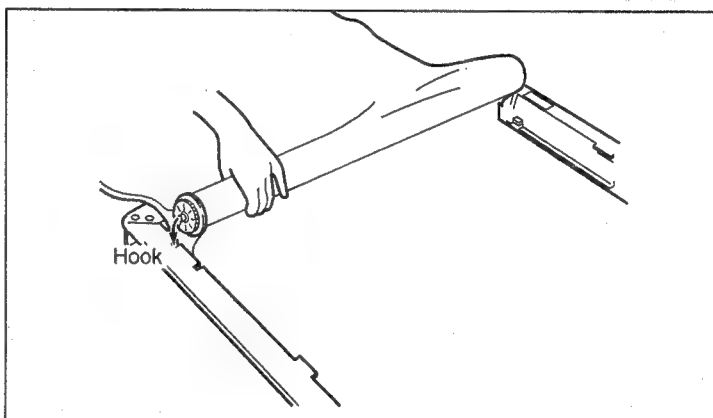

Fig. 7-24
- 3) Insert the main roller into the screen (film), then hook the roller shaft as shown in Fig. 7-24.